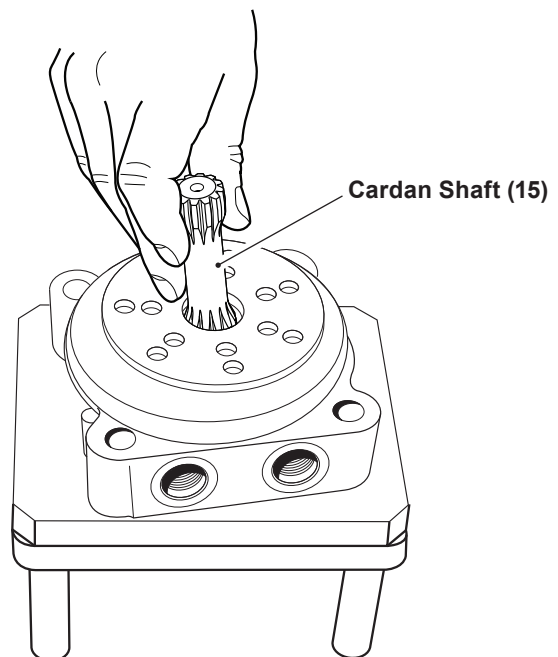

Figure 10, Cardan Shaft
2. Remove the cardan shaft (15). See figure 10.